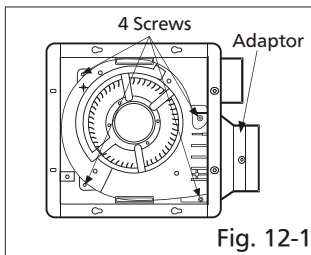

Fig. 12-1
1. Loosen 4 screws (but do not remove them from blower). (Fig.12-1)